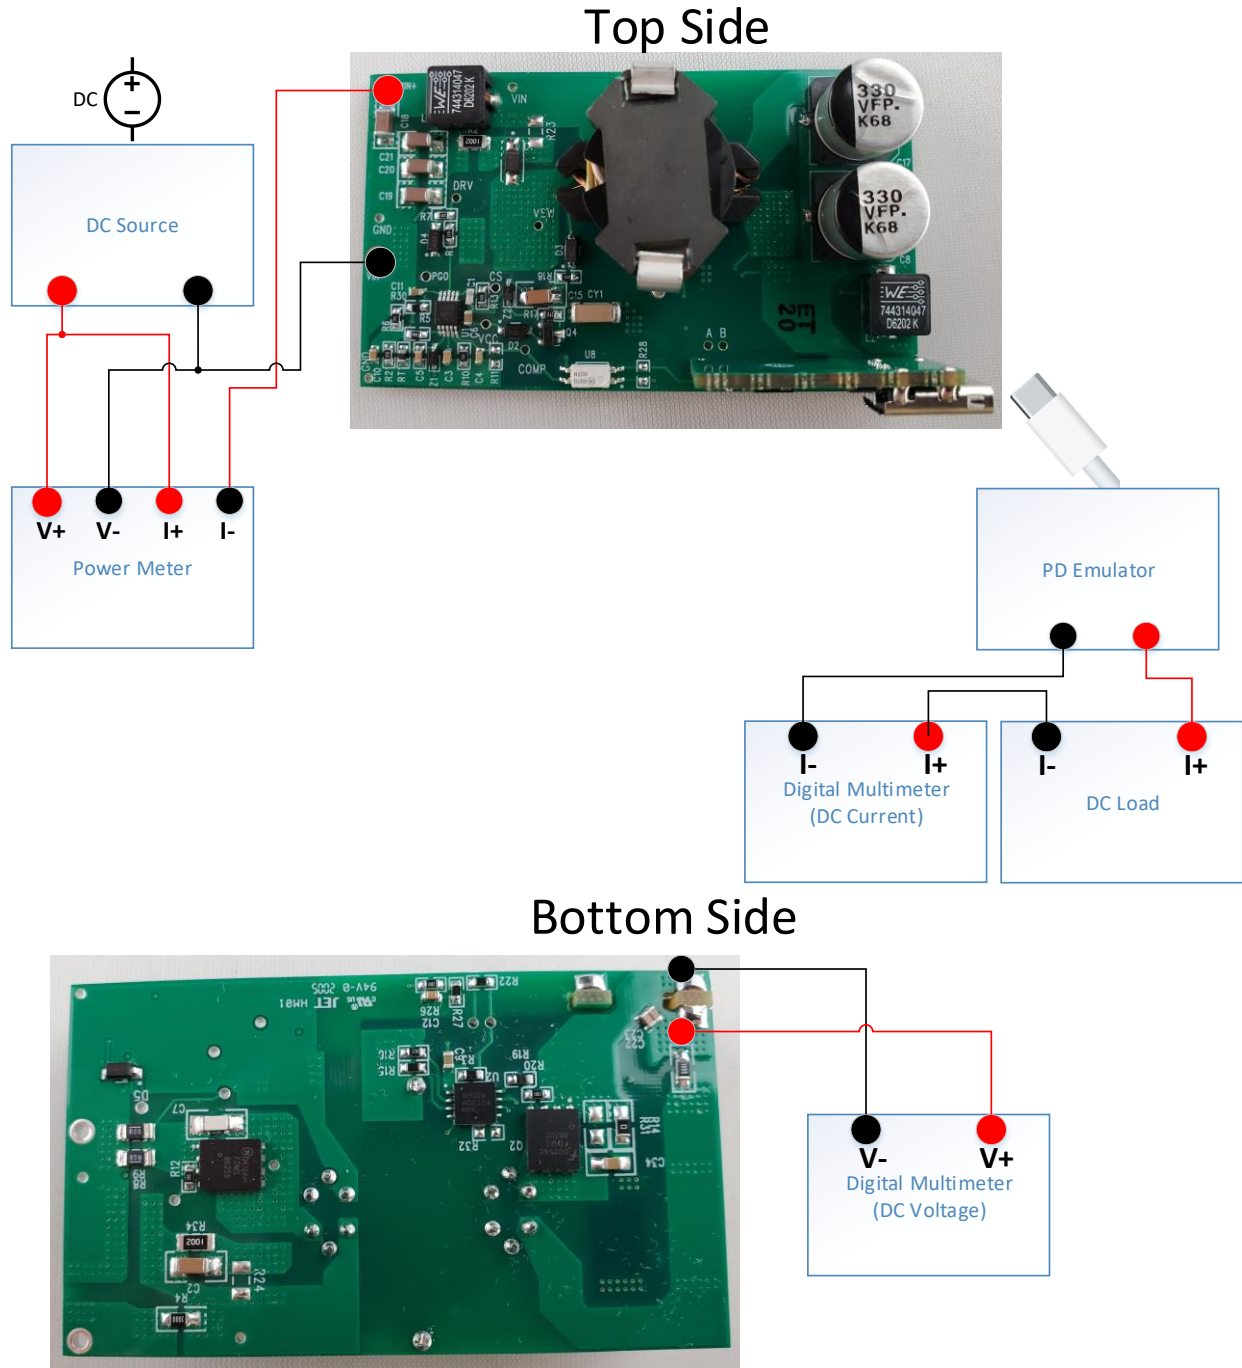

Figure 1 - Test Configuration
1. Leads will need to be soldered on the board in order to properly check output voltage. Solder insulated wires onto points featured on the bottom side in Figure 1.
2. Connect the output of the board to the PD emulator as shown in Figure 1.
3. Connect the Agilent 34401A Digital Multimeter (measuring DC I) in series with the output of the PD emulator and the Kikusui PLZ303W DC Electronic Load. Reference figure 1.
6. Connect the Agilent 34401A Digital Multimeter (measuring DC V) to the nodes as shown on Figure 1.
7. Connect the DC power source and power meter as shown in Figure 1.